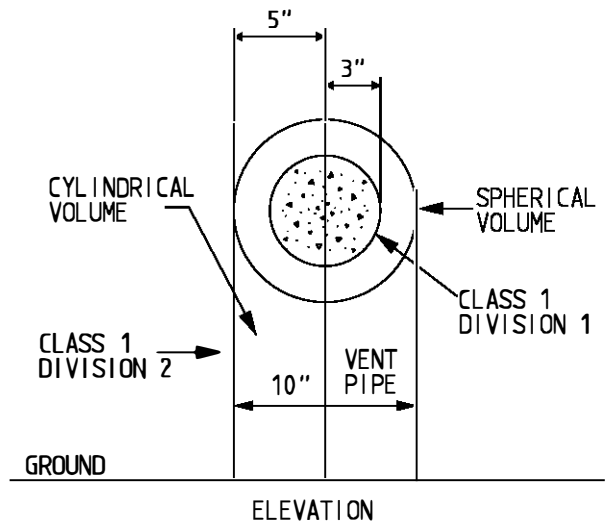

FIGURE 4
2. DISCHARGE OTHER THAN UPWARD - WITHIN A CYLINDRICAL VOLUME OF RADIUS 5 FEET MEASURED FROM THE POINT OF DISCHARGE EXTENDING TO THE GROUND. THE HAZARDOUS CYLINDRICAL VOLUME DOES NOT EXTEND BEYOND AN UNPIERCED WALL. REFER TO FIG. 4 SHT 3.